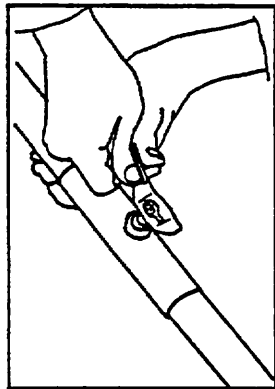

Figure 17
7) Attach the top rear wire to the rear keel bolt, making sure again that the bridle cables are inside the wire, and attach the rubber safety. (Figure 17)